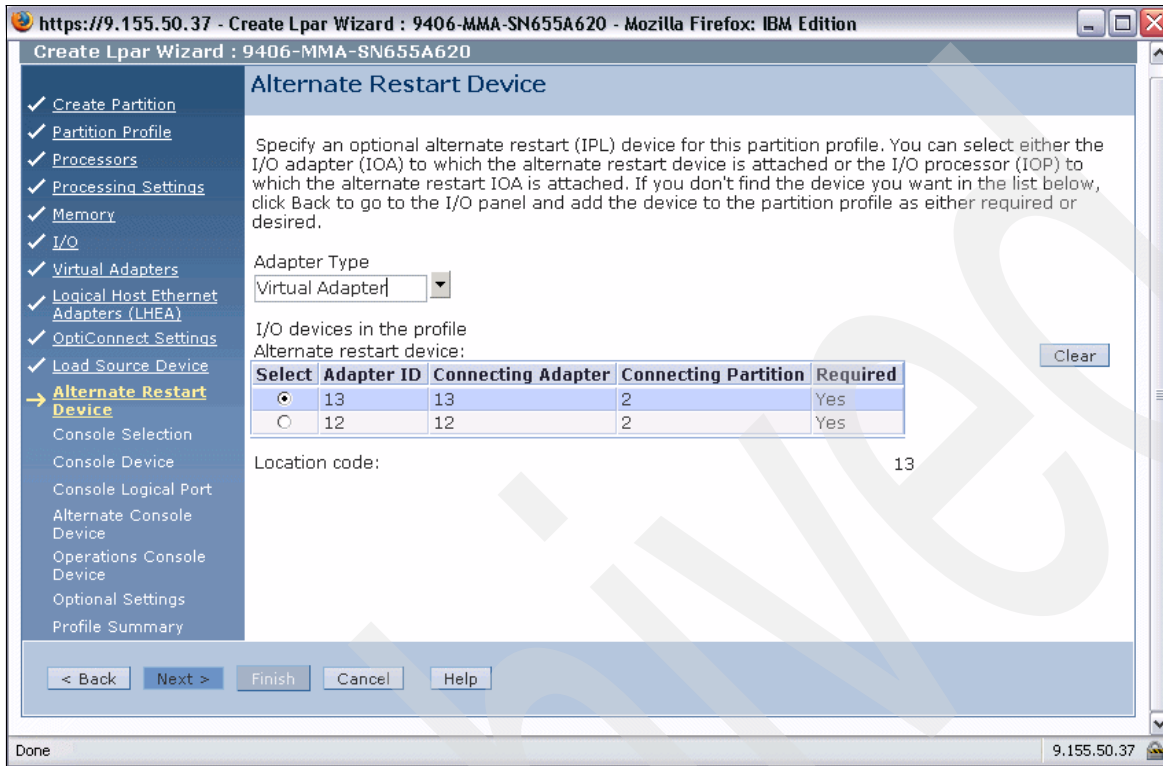

Figure 6-38 Create LPAR Alternate Restart Device dialog
18. For specifying the alternate restart device we also choose **Virtual Adapter** from the Adapter Type drop-down list box, select adapter ID **13** to which we will later map the virtual DVD-RAM drive to (see also 6.5, “Configuring VIOS virtual devices” on page 191), and select **Next** to proceed, as shown in Figure 6-38.